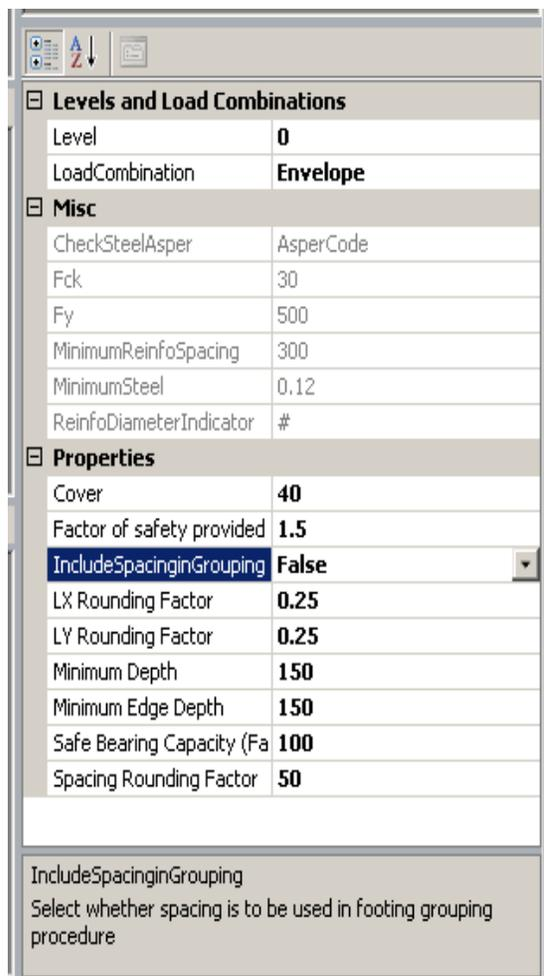

Fig .4.1.6
2. User can set data (fig4.1.5 & fig4.1.6)